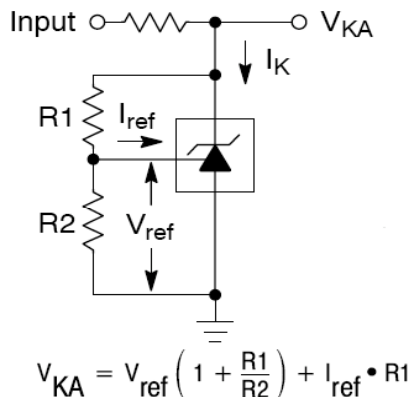

Figure 2: $V_{KA} > V_{REF}$
| Radio of change in Vref to change in cathode Voltage | $\Delta V_{REF} / \Delta V_{KA}$ | $I_{KA} = 10\text{mA}$, $V_{KA} = 10\text{V to } V_{REF}$ $V_{KA} = 36\text{V to } 10\text{V}$ (Figure 2) | -- | -1.4 | -2.7 | mV/V |
| Reference Input current | I_{REF} | $R1 = 10\text{K}\Omega$, $R2 = \infty$, $I_{KA} = 10\text{mA}$ $T_a = \text{full range}$ (Figure 2) | -- | 0.7 | 4.0 | μA |
| Deviation of reference input current, over temp. | ΔI_{REF} | $R1 = 10\text{K}\Omega$, $R2 = \infty$, $I_{KA} = 10\text{mA}$ $T_a = \text{full range}$ (Figure 2) | -- | 0.4 | 1.2 | μA |
* When the device operating with two external resistors, $R1$ and $R2$, (refer to Figure 2) the total dynamic impedance of the circuit is given by: